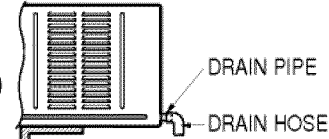

Fig. 1
2. Connect a drain hose of $\frac{3}{16}$ " inside diameter to the drain pipe as shown in Fig. 1.